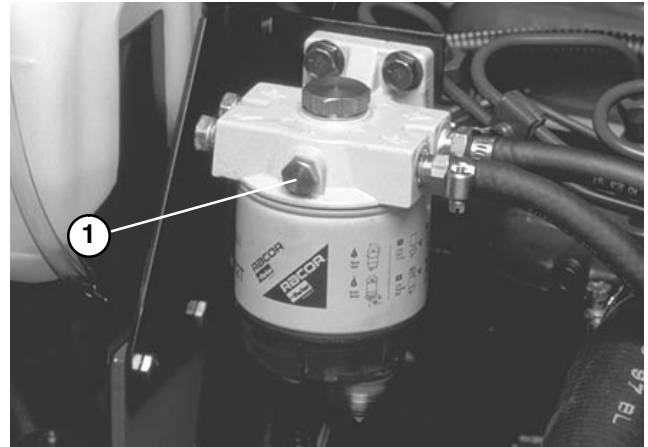

Figure 28
BLEEDING FUEL SYSTEM (Fig. 28 – 30)
2. Loosen air bleed screw on top of fuel filter/water separator (Fig. 28).